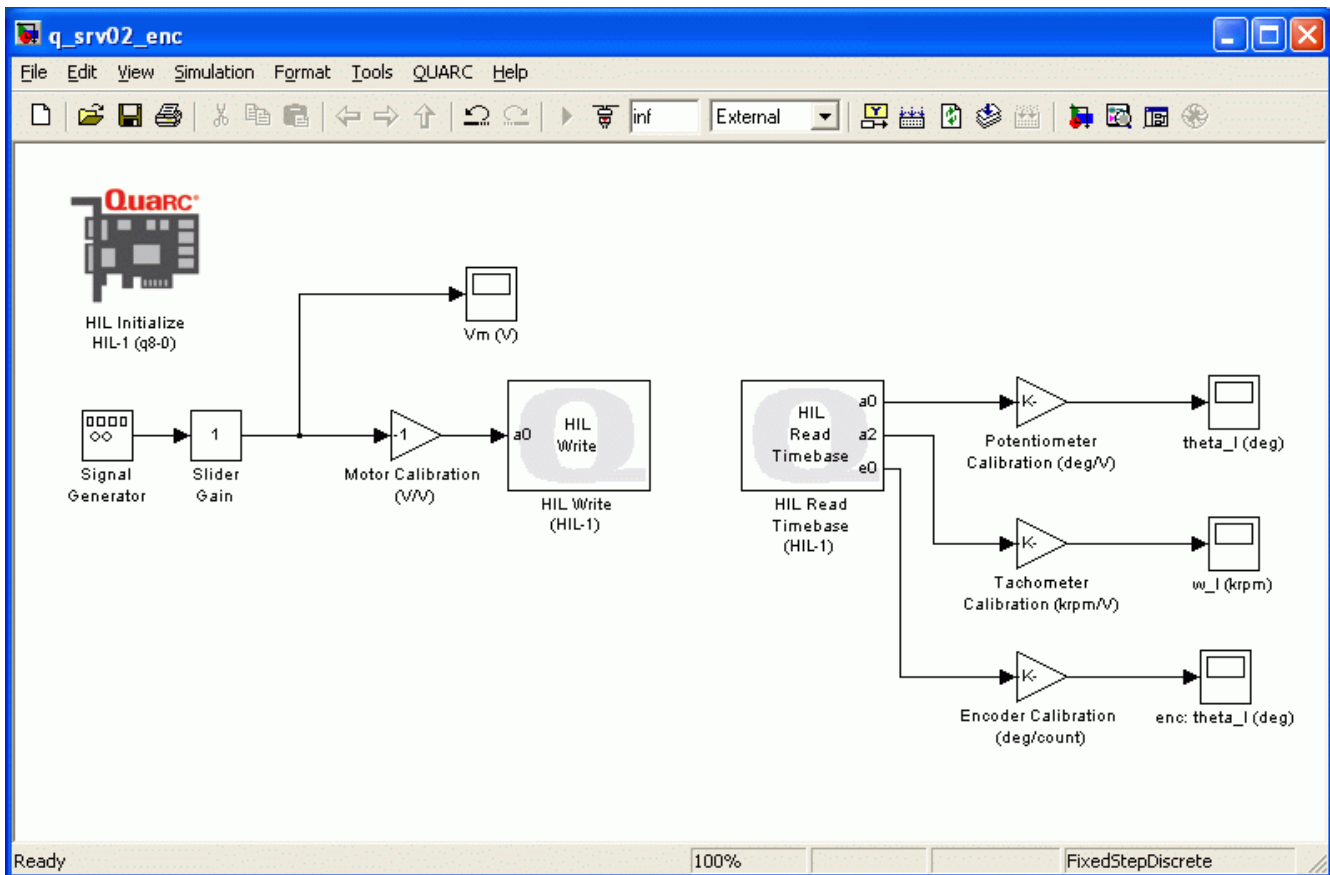
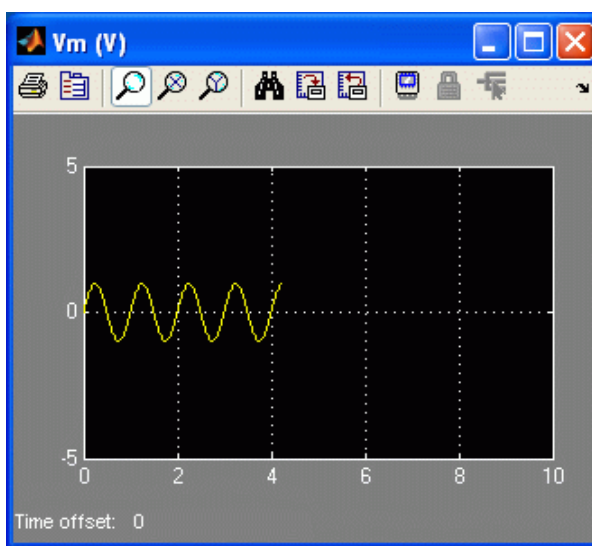
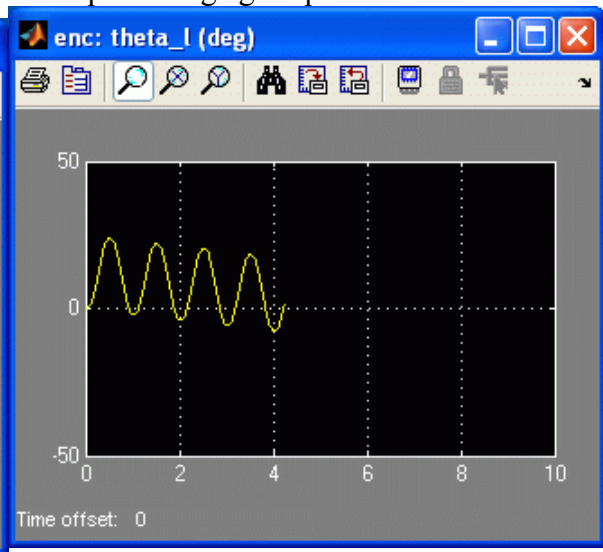

Figure 13: Simulink model used to send voltage to the SRV02 and read its potentiometer, tachometer, and encoder sensors.
Figure 14: Input sinusoidal voltage.
Figure 15: Load gear angle measured with encoder.
The Simulink diagram designed previously is modified to include an encoder measurement, as illustrated in Figure 13 below. Before continuing, please ensure that the SRV02 unit being used has an encoder, i.e. SRV02-E option.
4. Connect the Scope and Gain blocks as depicted in Figure 13, above. Thus connect the Gain block to the output labeled *e0* of the HIL Read Timebase block and label it *Encoder Calibration (deg/count)*. Then, connect the output of this gain block to the input of the Scope block and label the scope *enc: theta_1 (deg)*. This scope will display the measured angular position of the load gear in degrees.
6. Open the *V_m (V)* and *enc: theta_1 (deg)* scopes.
13. The measurement will be very small. Click on the *Autoscale* icon in the scope to zoom up on the signal or adjust the range of the y-axis manually. The input voltage and position scopes should appear similarly as shown in Figure 14 and Figure 15. Remark that no further calibration is needed: the encoder position increases when the input voltage goes positive.